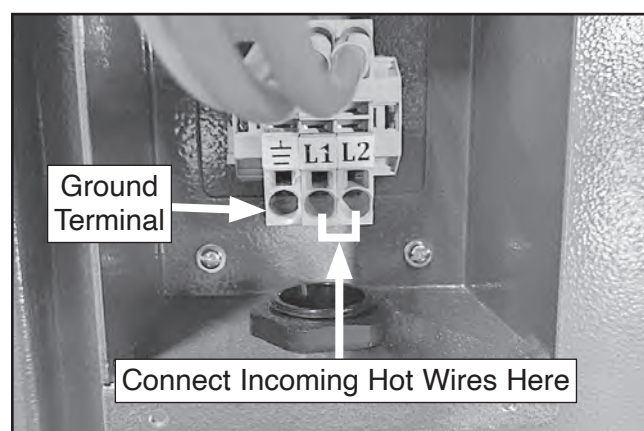

Figure 22. G0449 junction box wiring.
2. Feed power wires through strain relief on bottom of junction box, connect cord to terminals, (see **Figures 22–23**), then tighten strain relief.